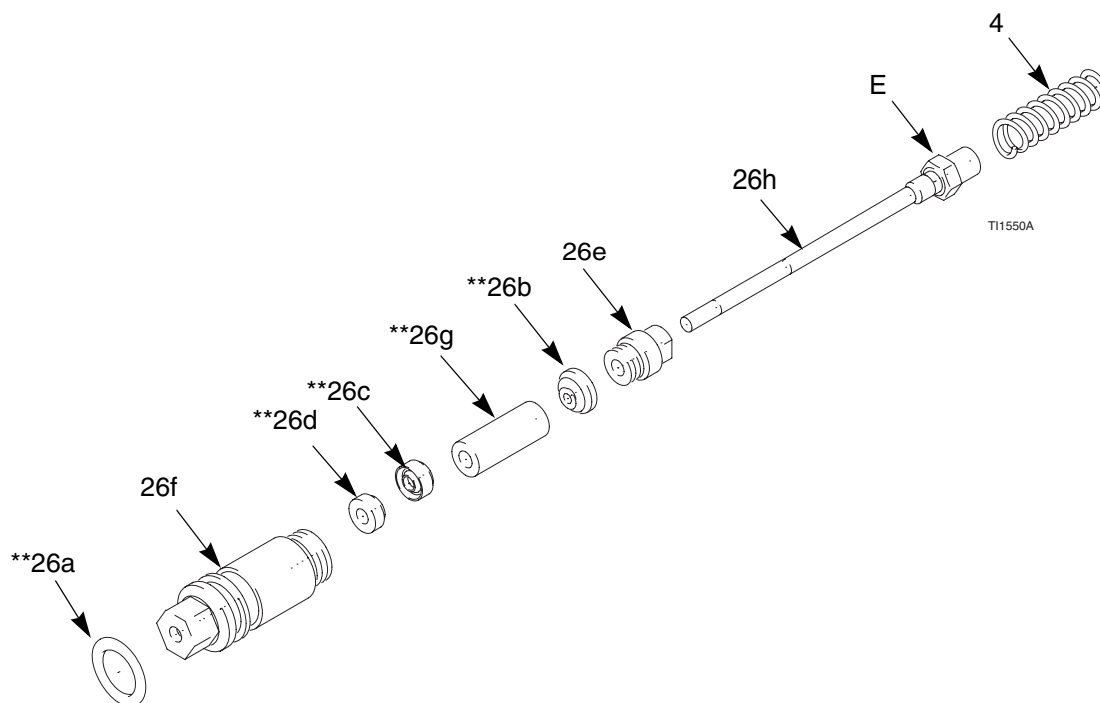

Fig. 12. Packing Rod
1. Place the packing nut (26e) and seal (26b**) on the fluid rod (26h). Flats on the packing nut must face the back of the fluid rod. The seal o-ring must face away from the packing nut. See FIG. 12.
2. Fill the inner cavity of the spacer (26g**) with dielectric grease (40). Place the spacer on the fluid rod (26h) in the direction shown. Generously apply dielectric grease to the outside of the spacer.
6. Install the spring (4) against the nut (E) as shown.
7. Install the packing rod assembly (26) into the gun barrel. Using the multi-tool (37), tighten the assembly until just snug.
8. Install the trigger (30) and screws (8).